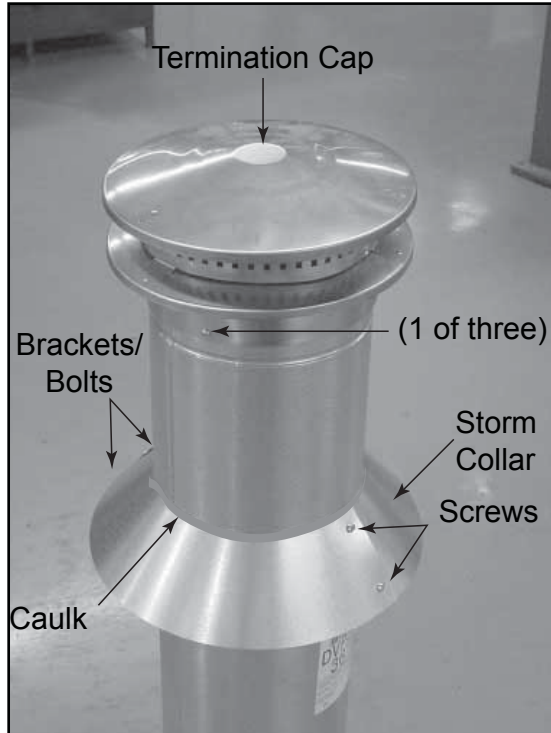

Figure 10.18
- Secure the cap by driving three self-tapping screws (supplied) through the pilot holes in the outer collar of the cap into the outer flue of the pipe (see Figure 10.18).